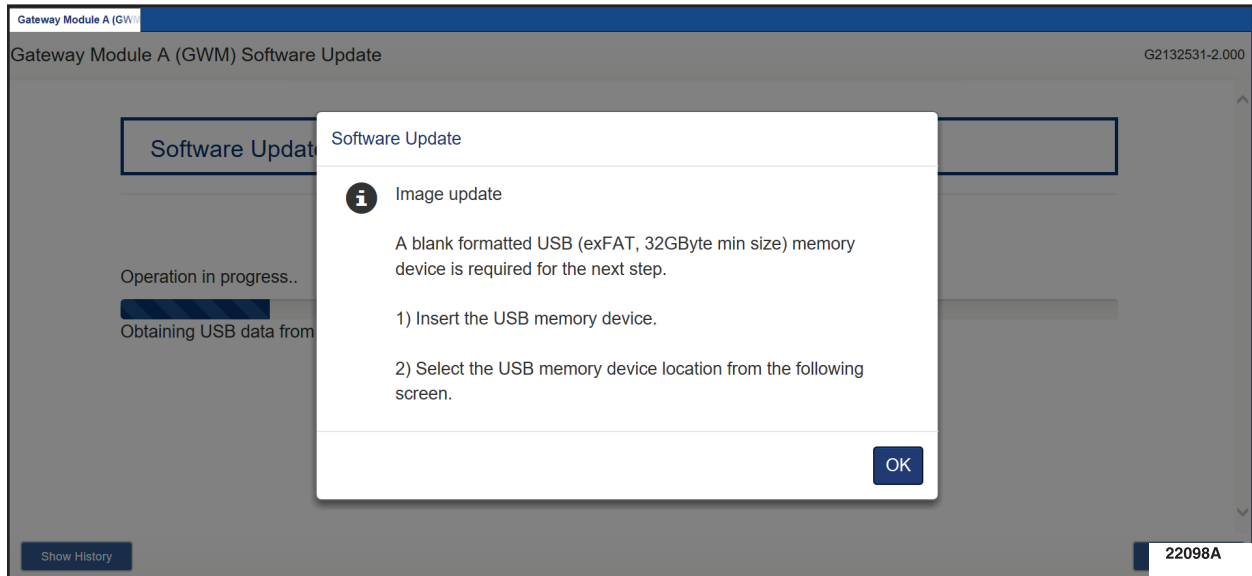

FIGURE 1
8. When prompted, connect the USB flash drive to the diagnostic scan tool. See Figure 1.